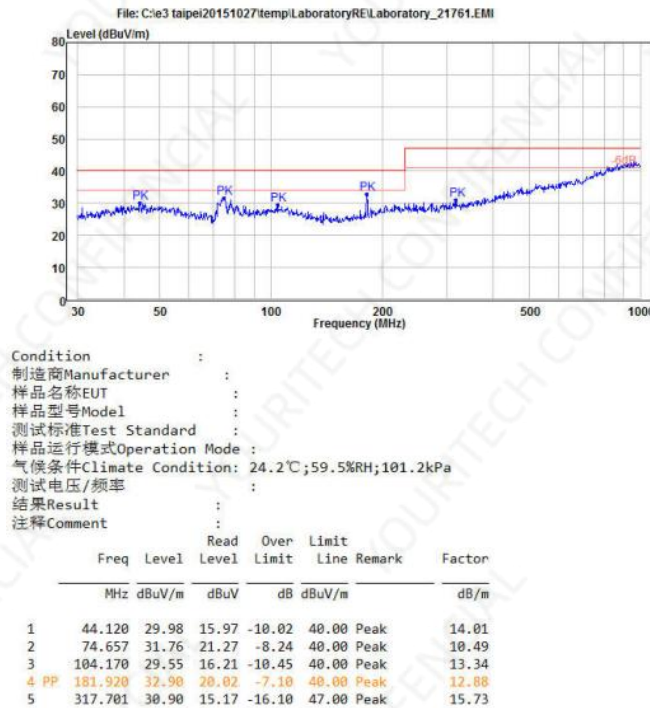

Figure 6-7: Radiation test in the vertical direction
2. Radiation test data in the vertical direction, as shown in Figure 6-7.